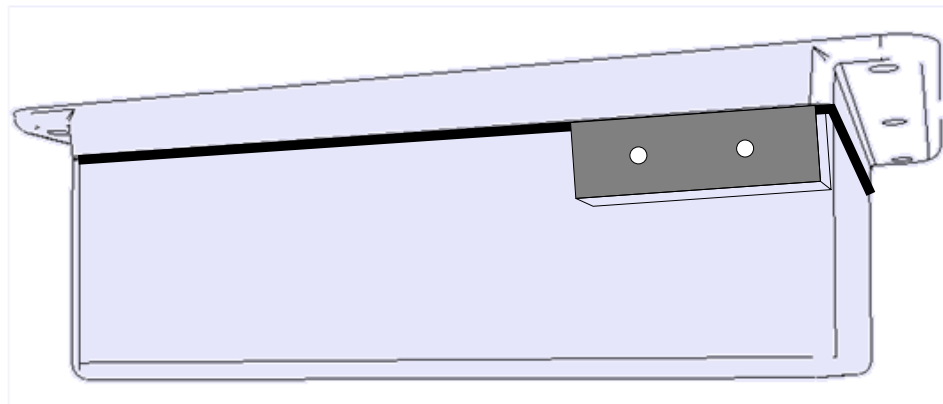

Figure 1
- 5.5.1. It is critical that the magnet is aligned properly with the sensor inside the Door Sensor box. The magnet should be installed on the door such that it is flush with the top edge of the gasket on the box and with the right wall of the box, when the box is positioned on the ceiling of the trailer. The ideal positioning is shown in Figure 1.